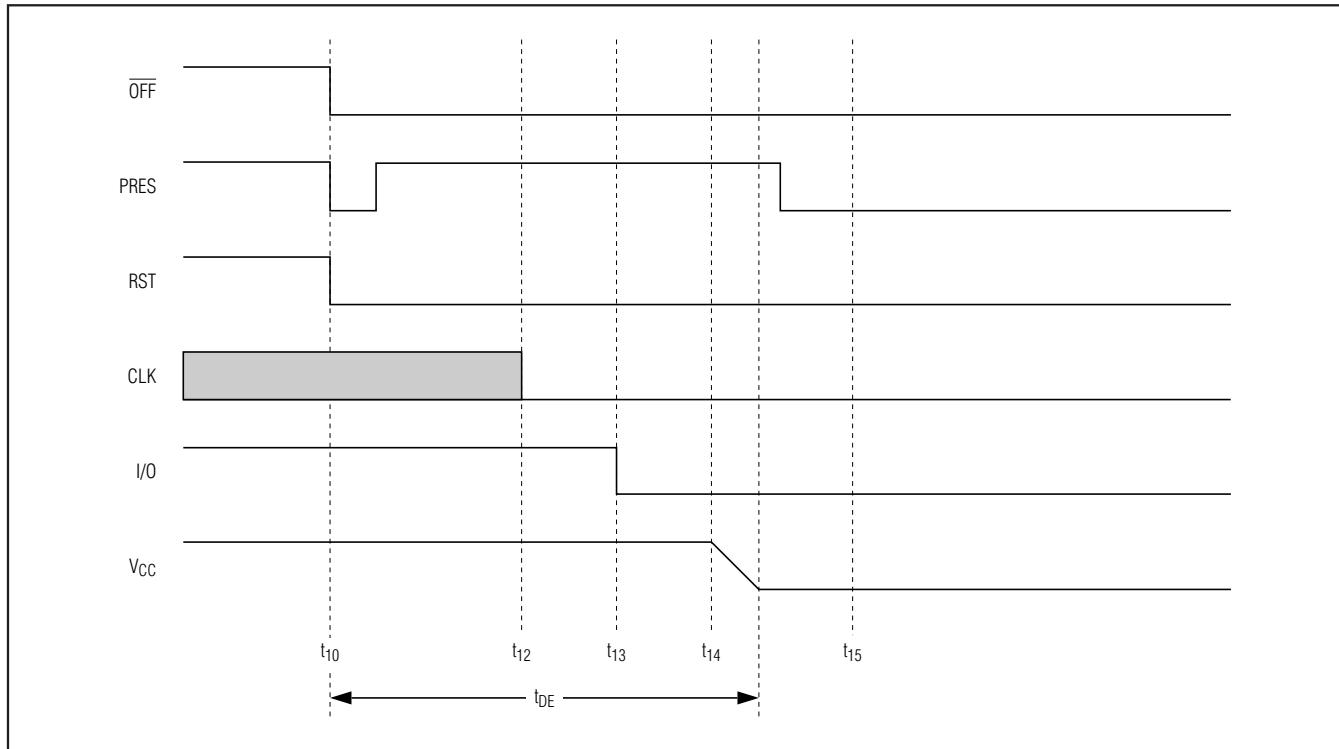

Figure 7. Emergency Deactivation Sequence (Card Extraction)
- **CMDVCC Low Within a Card Session.** Output OFF goes low when a fault condition is detected, and an emergency deactivation is performed automatically (Figure 7). When the system controller resets CMDVCC to high, it may sense the OFF level again after completing the deactivation sequence. This distinguishes between a card extraction and a hardware problem (OFF goes high again if a card is present). Depending on the connector's card-present switch (normally closed or normally open) and the mechanical characteristics of the switch, bouncing can occur on the PRES signals at card insertion or withdrawal.